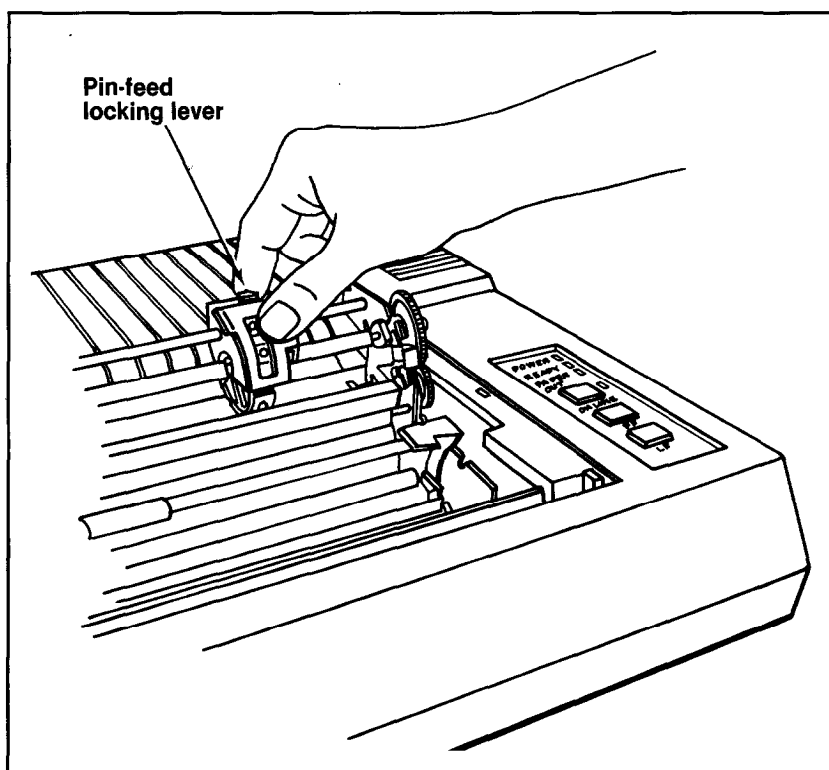

Figure 1-18 . Adjusting the pin feeders
- Position the pin feeders, using the pin-feed locking levers to make the adjustment. One is shown in Figure 1-18.